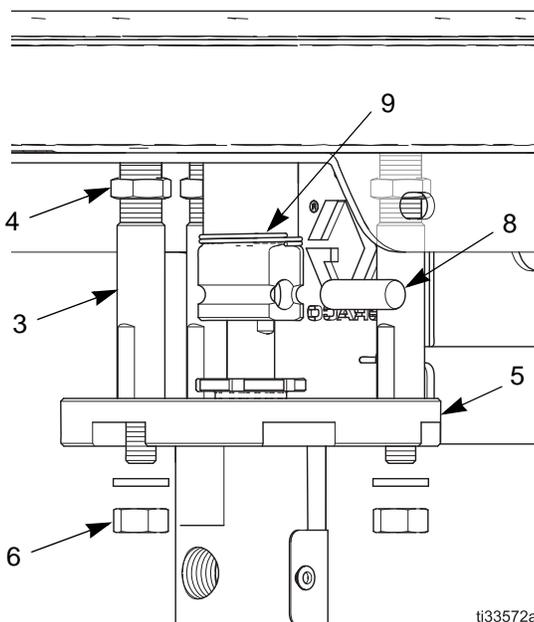

FIG. 18 Retaining spring and connector pin
3. See FIG. 18. Push the safety spring (9) down and hold to access the pilot valve (213) on the bottom cover (201).
4. See FIG. 18. Push the split spring (9) up or down to access the dowel pin (8). Push out the pin, using a screwdriver or punch.
5. Remove the nuts (6) from the bottom of the tie rods (3).
6. Remove the pump lower (7). The adapter plate (5) will remain attached to the pump lower.
7. Remove the split spring (9).
8. Loosen the nuts (4) at the top of the tie rods, then remove the tie rods (3). The mounting bracket (2) is loosened from the motor as the tie rods are removed.